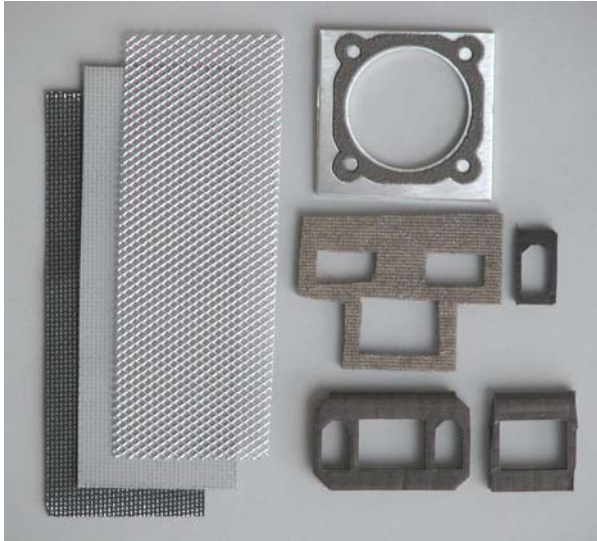

Figure 1:Conductive Gasket Materials and Gaskets
- At the point where the camera cable is plugged into the PC's frame grabber, the cable shield must have a very good connection to the PC chassis. The connector on a typical interface card usually does not provide enough contact between the shield and the PC chassis. Usually, you must make this connection better by using an additional device such as an electrically conductive gasket (see Figure 1) that is securely attached to the PC chassis and that makes good contact with the cable shield.
If you choose to connect the I/O cable shield at your equipment, the cable shield must have a very good connection to the equipment. Typically, you must make this connection better by using a device such as an electrically conductive gasket (see Figure 1) that is securely attached to your equipment and that makes good contact with the cable shield.
- At the point where the camera cable is plugged into the PC's 1394 interface card, the cable shield must have a very good connection to the PC chassis. The connector on a typical interface card usually does not provide enough contact between the shield and the PC chassis. Usually, you must make this connection better by using an additional device such as an electrically conductive gasket (see Figure 1) that is securely attached to the PC chassis and that makes good contact with the cable shield.
- At each point where a camera cable connects to the hub, the cable shield must have a very good connection to the hub housing. Typically, you must make this connection better by using an additional device such as an electrically conductive gasket (see Figure 1) that is securely attached to the hub housing and that makes good contact with the cable shield.